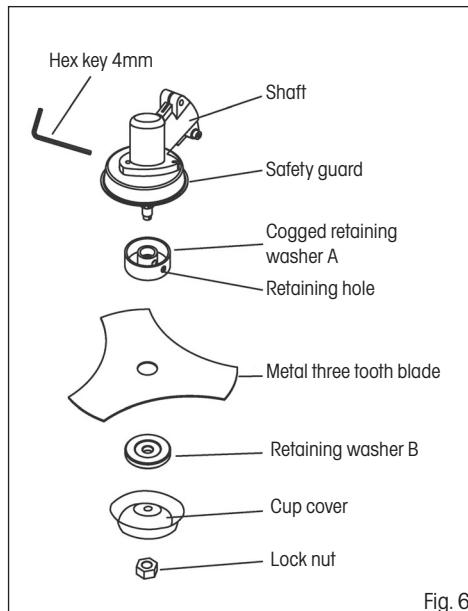

Fig. 6
- ❖ Lock the shaft in place by inserting the 4 mm hex key (see fig. 6). To achieve this, it is necessary to align the hole in the protective guard with the hole in the shaft and insert the hex key. Align the holes by turning the protective guard.